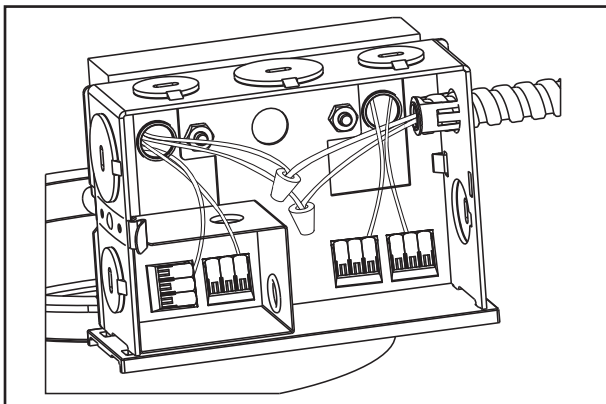

Figure 12
3. Remove one of the junction box covers. Connect supply lead wires to lead wires of driver as per Wiring Diagram and in accordance with your local electrical code(s) or N.E.C. (Figure 12.).
1. Provide electrical service according to the “National Electrical Code” or your local electrical code to the junction box (located on the plasterframe). Supply wire insulation must be rated for at least 90°C. The junction box is listed for (4) #12 AWG (two in, two out) 90°C conductors and feed thru branch wiring for type IC and Plug in drivers for 120/277V only. For all other cases (8) #12 AWG (four in, four out) 90°C conductors and feed thru branch wiring for 120/277V only.
2. Remove junction box cover (Figure 12.).